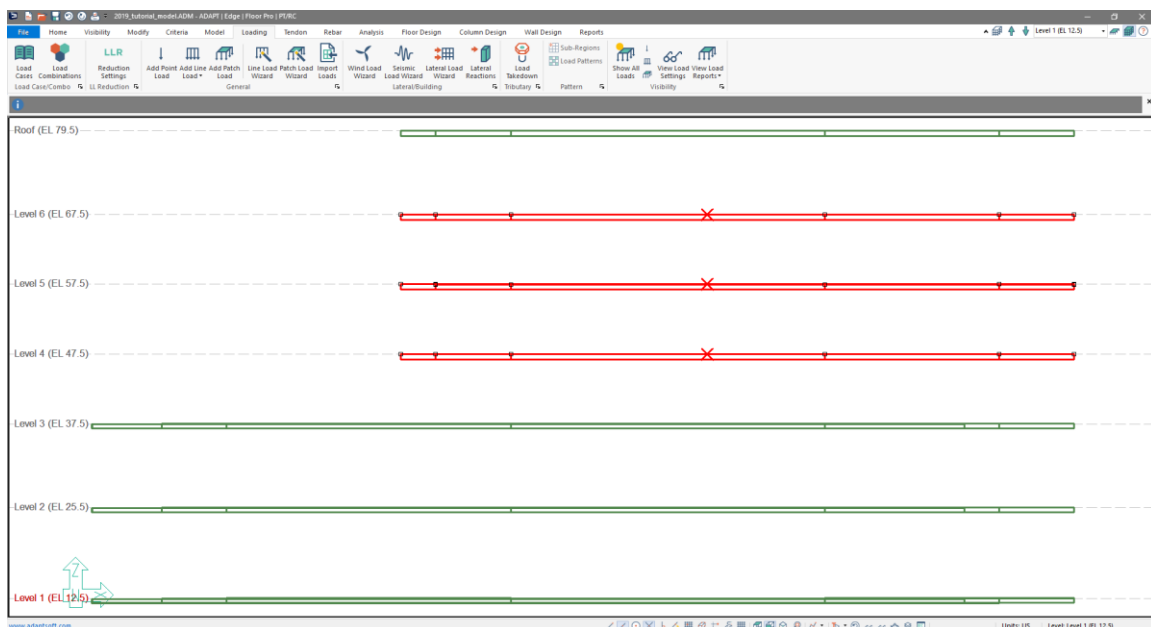

Figure 7-17
- Drag and select the Level 4 through Level 6 slabs. Once the slabs are selected, they should be highlighted in a red color as shown in **FIGURE 7-17**.